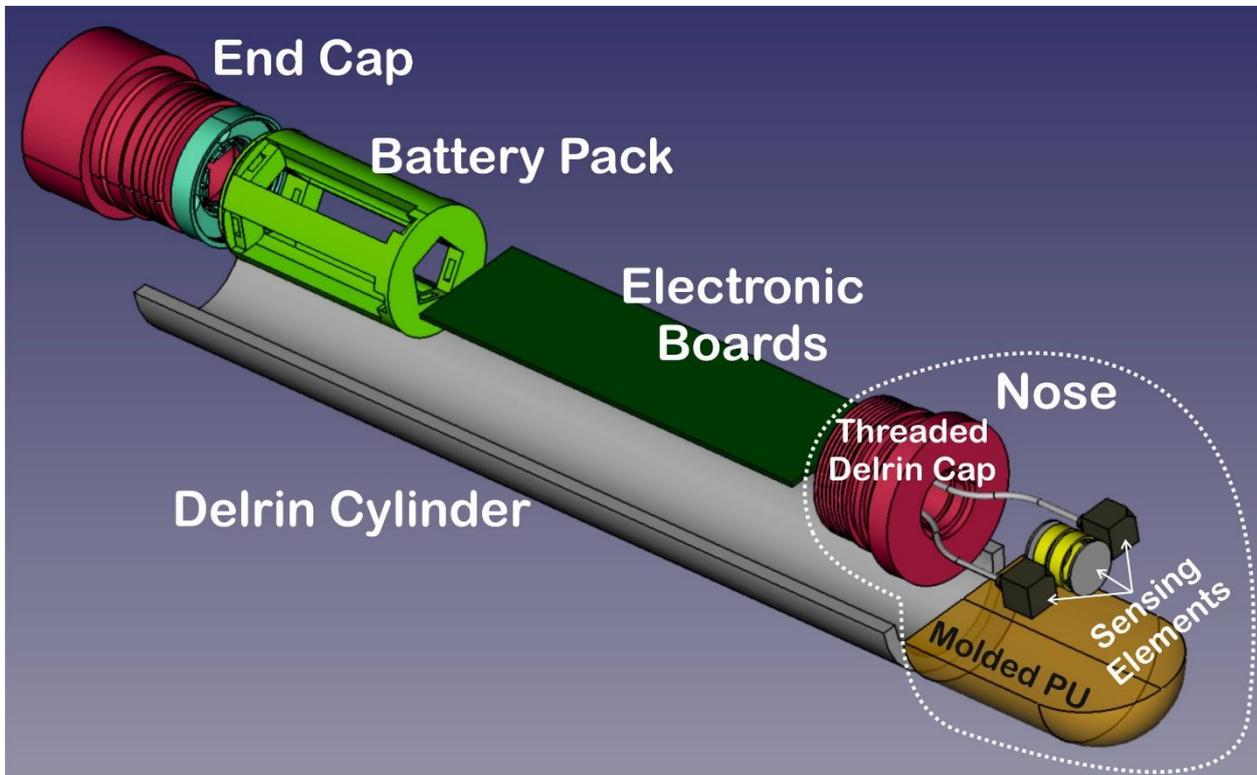

Figure 53 - Exploded view of DAVS system, with the components identified
The DAVS system is composed of some mechanical parts, as can be seen in the exploded view of Figure 53. These different parts are:
- The DAVS nose which is the acoustic sensor, where the accelerometers and hydrophone are enclosed (yellow color in Figure 53);